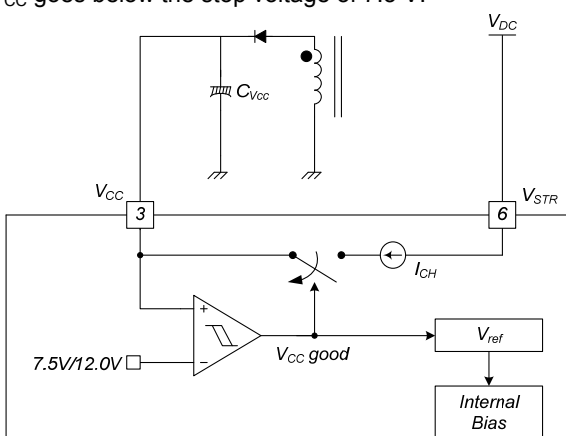

Figure 17. Startup Block
1. Startup: At startup, an internal high-voltage current source supplies the internal bias and charges the external capacitor (C_{VCC}) connected to the V_{CC} pin, as illustrated in Figure 17. When V_{CC} reaches 12 V, the FSD176MRT begins switching and the internal high-voltage current source is disabled. The FSD176MRT continues normal switching operation and the power is supplied from the auxiliary transformer winding unless V_{CC} goes below the stop voltage of 7.5 V.